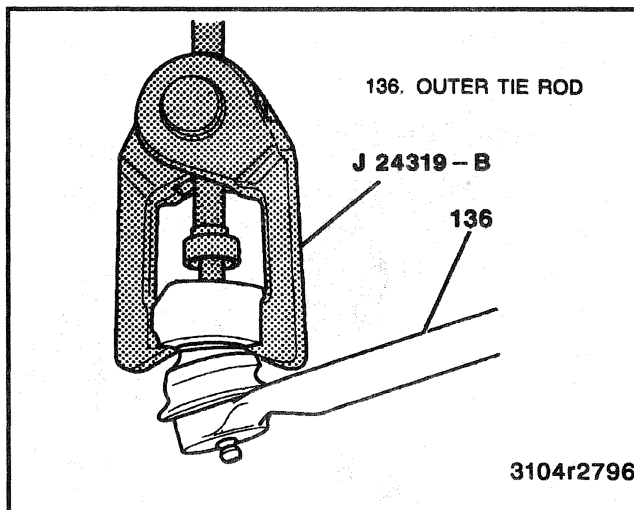

Figure 9—Disconnecting the Tie Rod
6. Separate the outer tie rod ball stud from the steering knuckle using J 24319-B (Figure 9).
8. Shock mounting bolt washer and nut (Figure 9).